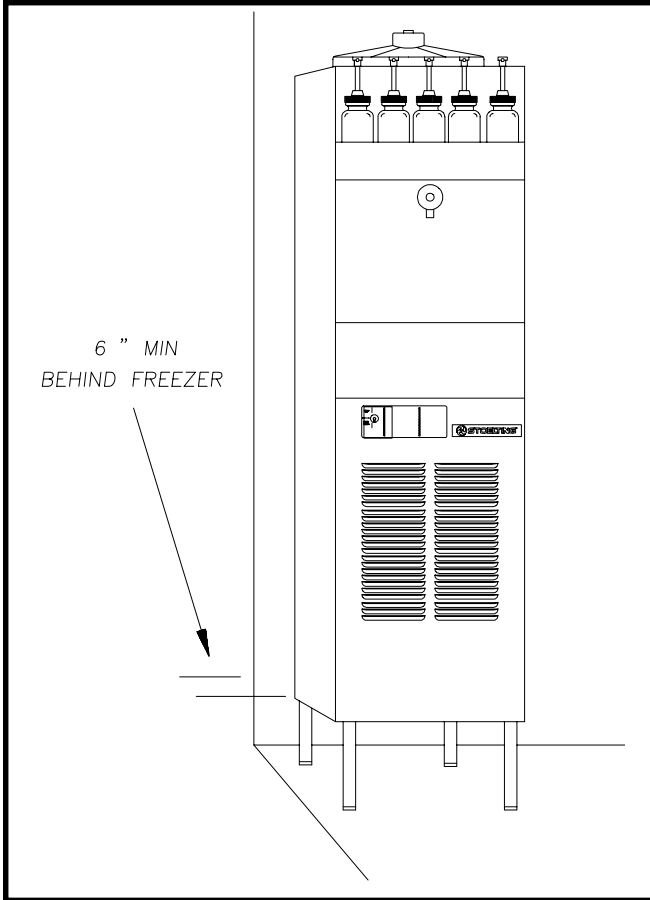

Figure 8
D. The floor model freezers are equipped with air-cooled condensers and require correct ventilation. The front of the freezer is the air intake and must be unobstructed. Air discharges out of the rear of the unit. Do not obstruct the discharge. Allow a 6" (15.2 cm) clearance behind the unit (Fig. 8).